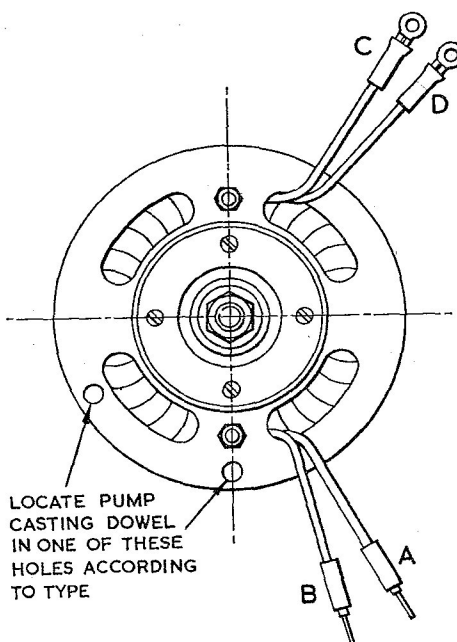

Fig. 8. Motor lead positioning
21. (1) Carefully insert the armature assembly through the bore of the stator assembly (157) from the longer lead end. Thread the tagged leads through the upper right-hand end casing slot and the untagged leads through the lower right-hand slot relative to the tie-bolt holes as indicated in fig. 8. Locate the motor end-casing on the spigot of the stator assembly, and engage the stator pin in the casing rim slot.